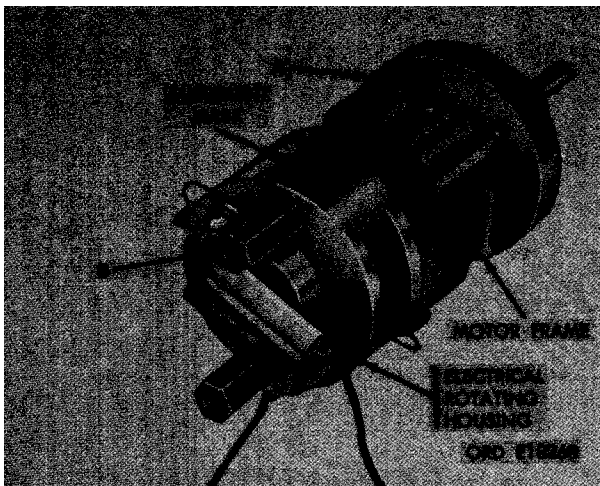

FIGURE 441. INSTALLING MOTOR FRAME
- (2) Figure 441. (A) Position motor frame so alignment mark, made at disassembly, aligns with the alignment mark on the electrical rotating housing. (B) Install two mounting studs.
**Note.** When end play is not between 0.003-inch and 0.005-inch, refer to figures 441 and 442 and reverse the sequence of illustrations and instructions to partially disassemble pump motor. Add or subtract spacer shims as required until proper end play is established.